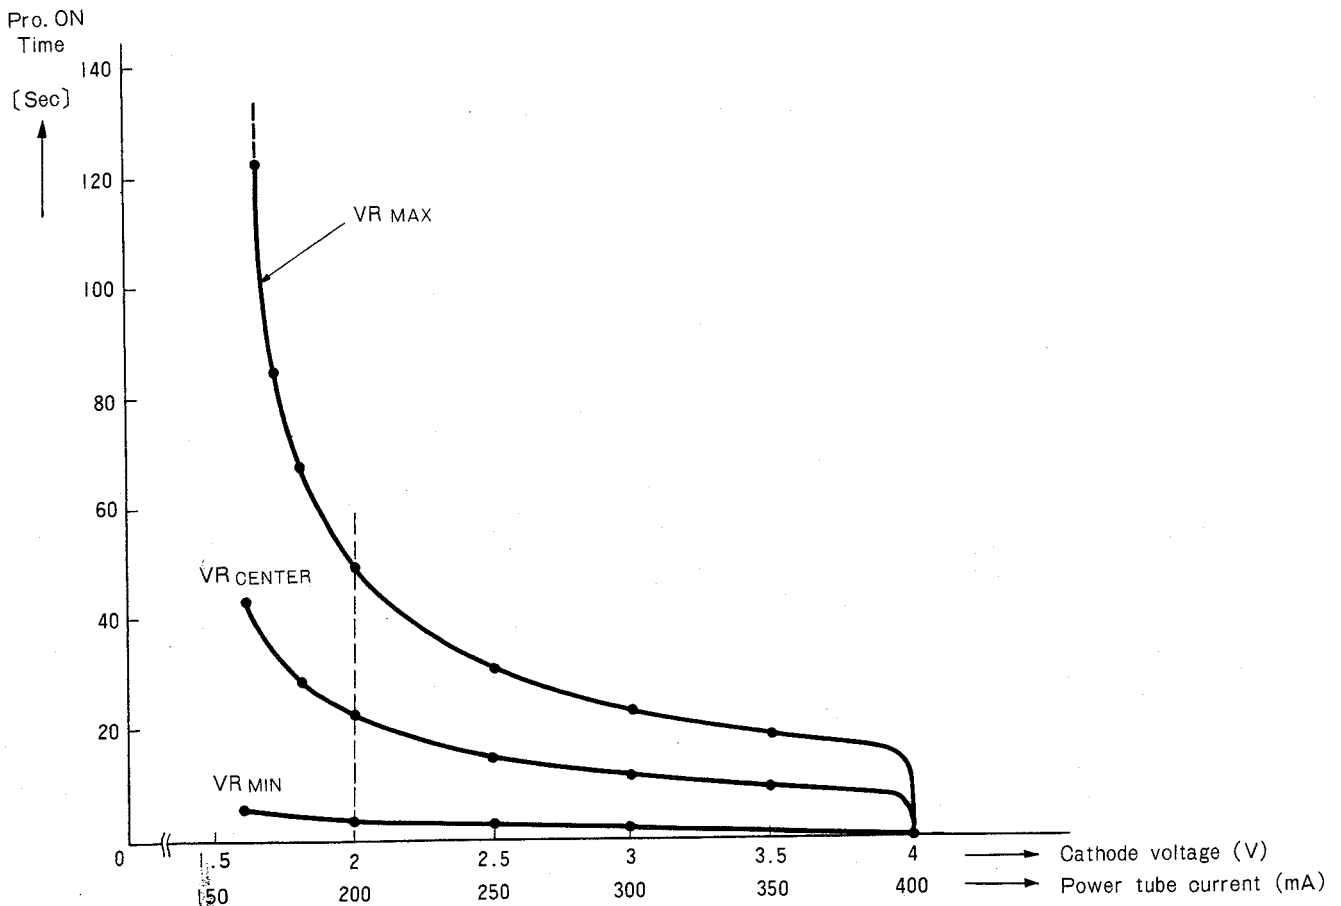

FIG. 3 PROTECTOR CHARACTERISTICS
0.7 V across the base-emitter junction — the same level as produced by the 240 mA fault current. Thus, the thyristor is turned on by this voltage to energize relay RL1, and protect the power tubes. To reset the protection circuit, shift the exciter stand-by switch to the receive mode or turn the LINEAR ON switch off. This procedure is necessary since relay RL2 has been self-held by "make" contacts since operation of relay RL1. The thyristor however has been automatically reset. Fig. 3 shows the operating characteristics of the protection circuit.
(1) Linear amplifier does not operate in transmit mode.	<p>(a) Confirm that remote cable is connected to exciter. External stand-by circuit is inserted in series with TL-911 linear-on switch. Linear amplifier, therefore, will not operate by merely turning linear-on switch on. Linear amplifier is set to transmit mode by connecting remote cable to exciter, turning linear-on switch on, and exciter stand-by switch to transmit mode.</p> <p>(b) Is remote cable properly connected between exciter and linear amplifier? (Accessory remote cable is for TS-515 or TS-510. For use with other exciters, change pin connections, referring to CONNECTIONS OF REMOTE CABLE on page 11.)</p> <p>(c) Confirm that voltage is on in relay circuit.</p>
(2) Output meter does not deflect.	<p>(a) SWR SEN knob on panel is in fully counterclockwise position, or meter switch is not in FWD position. (SWR meter sensitivity is increased by turning SWR SEN knob in the clockwise direction.)</p> <p>(b) SWR detection circuit is inserted into coaxial cable connecting relay RL2 and antenna connector. Confirm that the circuit is rectifying RF voltage. Also check meter switch circuit.</p>
(3) Overcurrent protection circuit does not operate.	<p>(a) Protection circuit is turned off since PRO TIME knob on rear of set is set in the fully counterclockwise direction. Note: This knob should not be adjusted in normal operation. Power tubes may be damaged if transmission is continued with protection circuit off.</p> <p>(b) Confirm that the protection circuit is powered. (The voltage should be approximately DC 15 V at pin 28 of X53-1000-00.)</p> <p>(c) Protection will start only after an extended period at a plate current of around 150 mA. This, however, is not a trouble but is due to the operating characteristic of the protection circuit. See Fig. 3.</p>
(4) Overcurrent protection circuit trips too quickly.	<p>(a) Confirm that PRO TIME knob, on the rear, is set to proper operation time. (Refer to ALIGNMENT for the time adjustment.)</p> <p>(b) Rated exciter input to TL-911 is 100 W. If driven by more than 100 W, protection will trip more quickly than rated due to increase in I_p. See Fig. 3. Protection will trip quickly if transmission is continued at an I_p of around 300 mA. This, however, reduces the life of the power tubes, and drive should be reduced.</p> <p>(c) If linear amp tank circuit is improperly adjusted, plate dissipation will be greater under this condition. I_p will rapidly increase with the increase in tube temperature and protection will trip more quickly. This usage, in turn, imposes an extreme overload on the tubes, causing them to flash. The tank circuit, therefore, should be adjusted until tubes deliver maximum output for a given rate of plate current.</p>
(5) Protection circuit trips instantaneously when operator whistles into the microphone in the SSB mode or talks in a stronger voice.	<p>(a) This occurs from an overdrive in which whistling instantaneously swings I_p to 400 mA or greater. Although instantaneous, this large current will rapidly consume the life of power tube cathodes and exciter microphone gain should be reduced to avoid this.</p> <p>(b) Variable resistor VR6 contained in the control unit is set to an instantaneous protection level of below 400 mA. Readjust the potentiometer by referring to ALIGNMENT.</p>